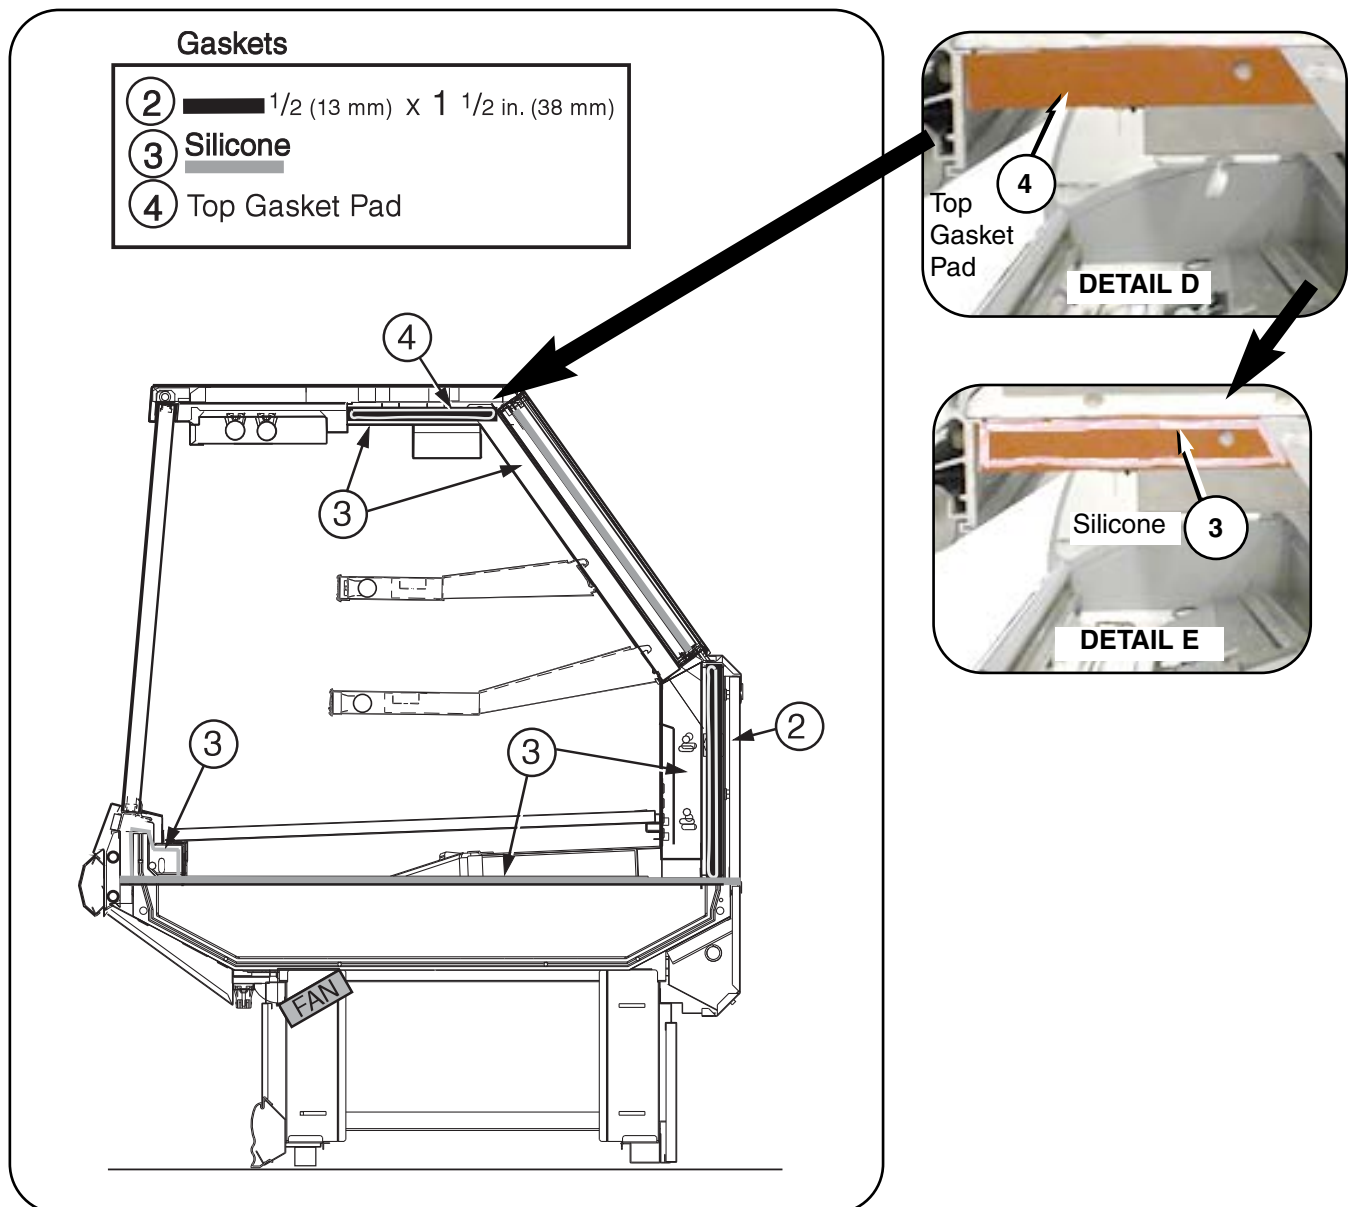

**Figure 4.** Apply Silicone
**3** Before joining, lay a 1/2 in. bead of clear **Silicone (Item – 3)** along the perimeter of the case as shown in **Figure 4**.
**4** In addition, apply silicone around the perimeter of the front box bracket and over a portion of the frame as shown in **Figure 4, Details B and C**.